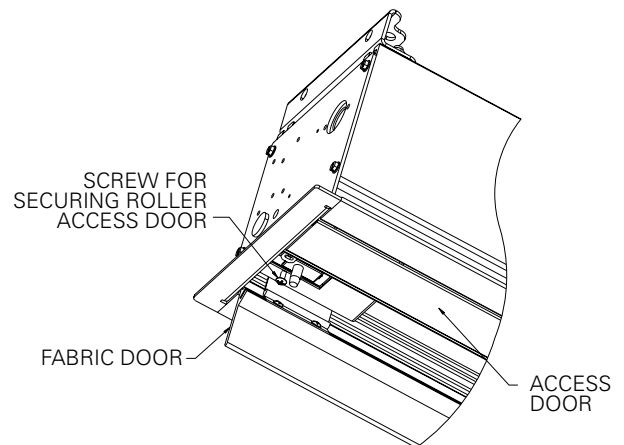

FIGURE 1
1. Remove the screw from each end of the access door (front door) and open the door. See figure 1.